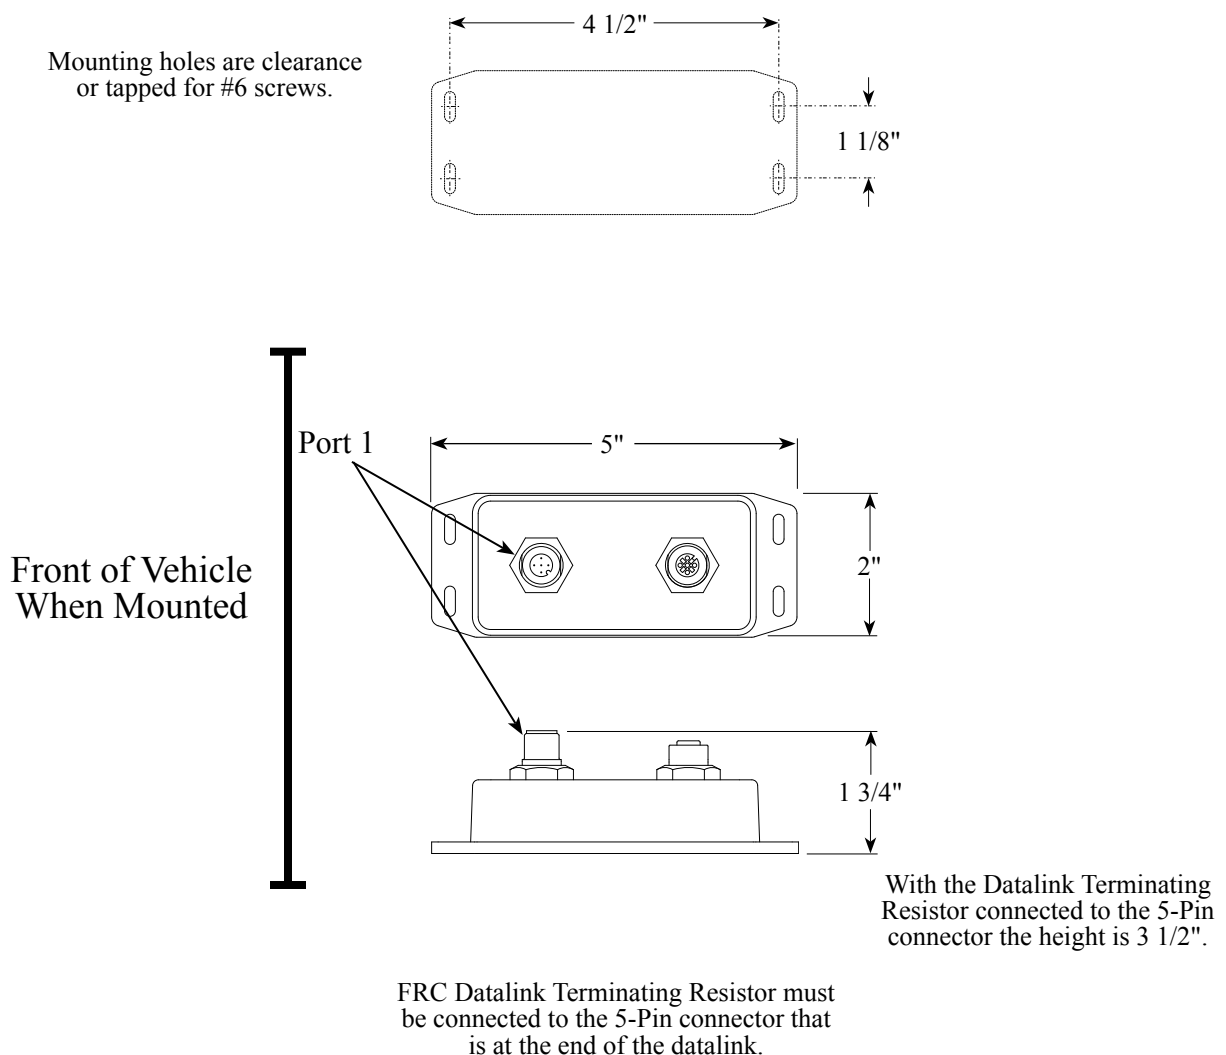

Figure HM-10. Lateral G Sensor Module Mounting Dimensions
1. Measure and mark mounting location for lateral G sensor module mounting screw holes. Make sure there is clearance for the module and cables before drilling holes. Refer to Figure HM-10 for layout and dimensions.